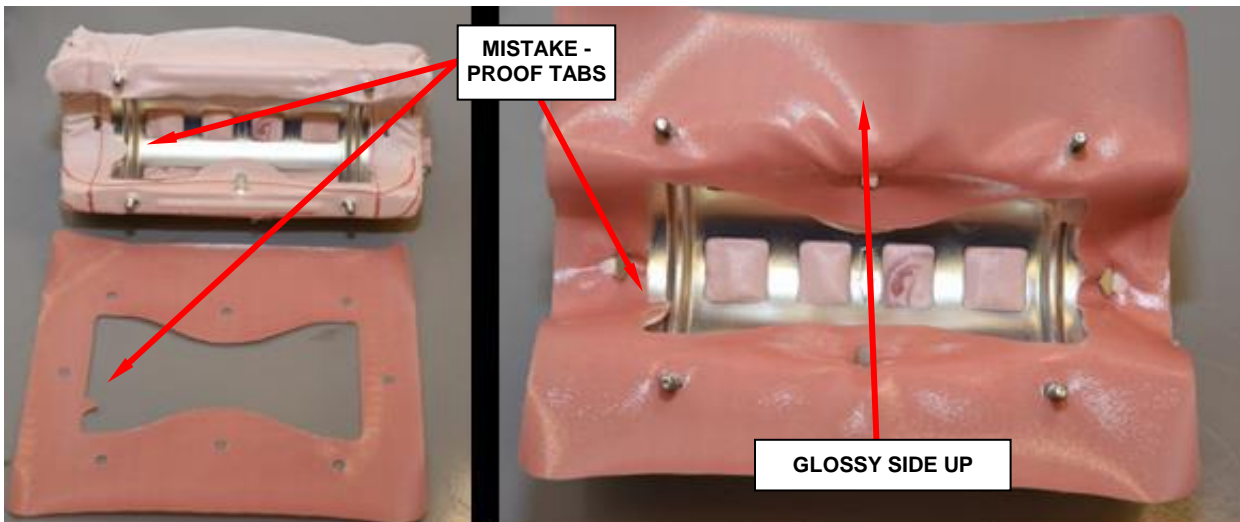

Figure 75 – Fabric Gasket to Cushion
- i. Place the fabric gasket, glossy side up, onto cushion. Mistake-proof tab should be aligned to the tab on the cushion (Figure 75).